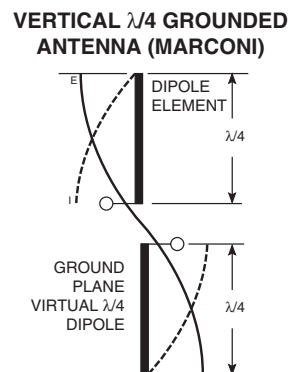

Figure 26: Dipole Antenna
4. In many antenna designs, particularly  $\frac{1}{4}$ -wave whips, the ground plane acts as a counterpoise, forming, in essence, a  $\frac{1}{2}$ -wave dipole (Figure 26). For this reason, adequate ground plane area is essential. The ground plane can be a metal case or ground-fill areas on a circuit board. Ideally, it should have a surface area less than or equal to the overall length of the  $\frac{1}{4}$ -wave radiating element. This is often not practical due to size and configuration constraints. In these instances,